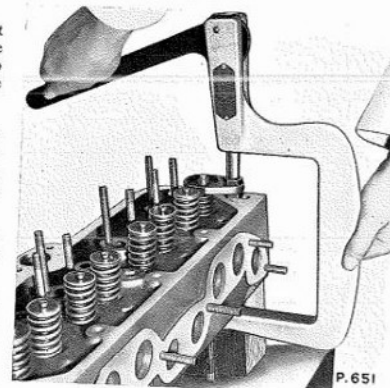

Fig. B.6. Compressing the valve springs and cup, using the Churchill Tool R.G.6513 and the compressor foot R.G.6513-1
2. Using a valve spring compressor (Churchill Main Tool R.G.6513, which includes the Compressor Foot R.G.6513-1, as shown in Fig. B.6), compress the valve springs and cups, thus freeing the split coned cotters enabling them to be removed. When carrying out this operation ensure that the hardened steel cotters and the spring cups do not damage the valve stems. Ensure that the inlet valve spring cups are not over compressed, so as to cause damage to the sealing, or "O" rings.